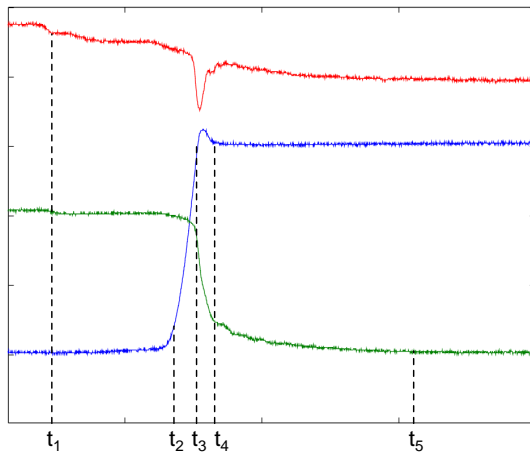
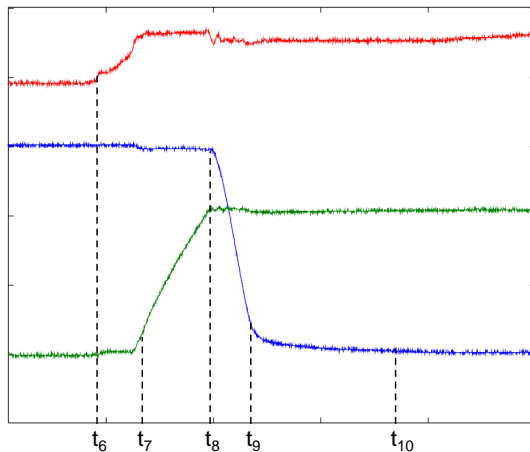

Figure 2: Definition of time intervals during turn-off action.
Figure 3: Definition of time intervals during turn-on action.
- time intervals defined according to Figure 2 and Figure 3